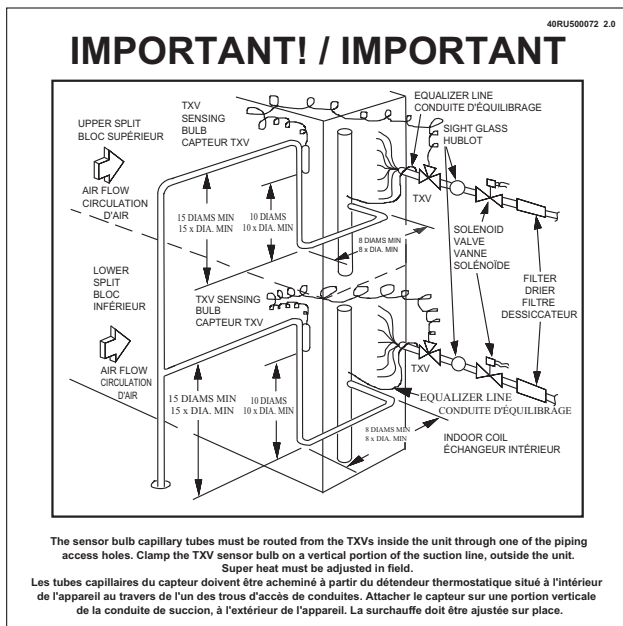

Fig. 28 — TXV Bulb Location Label
- Is TXV bulb located on suction tube per Fig. 28?